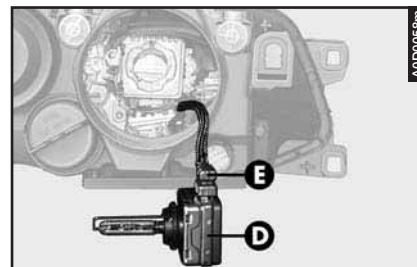

fig. 28
- Remove the bulb (**D- fig. 28**) and disconnect the snap-fitted connector (**E**).